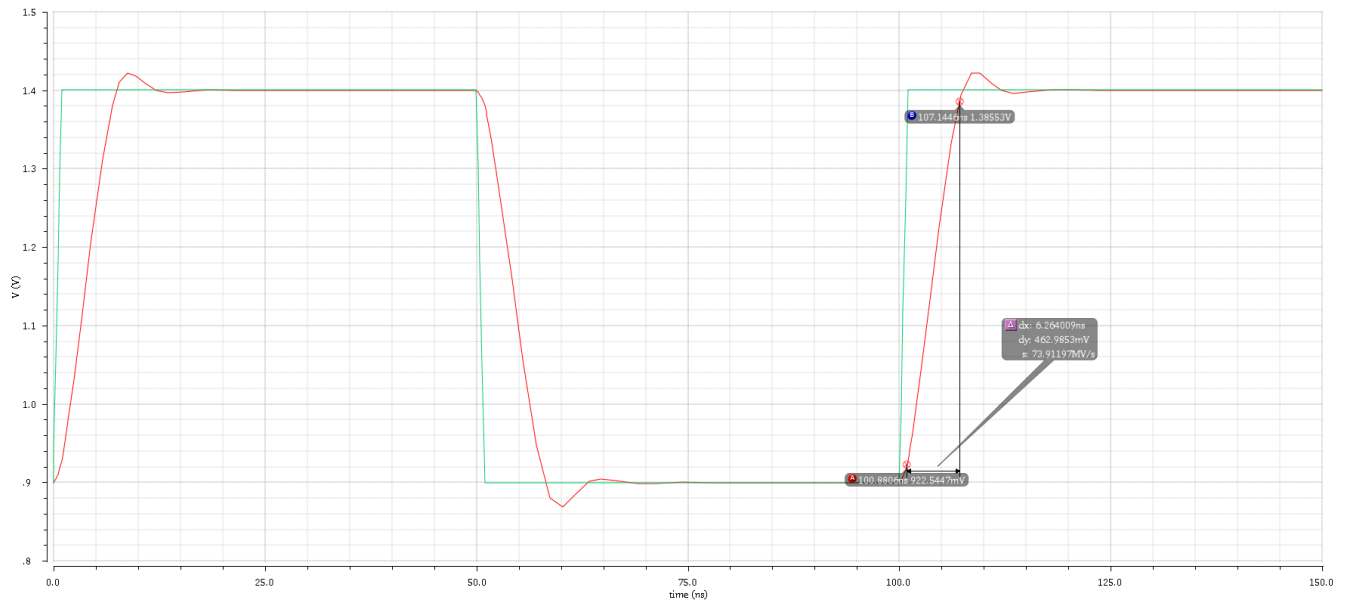

Figure 5: Transient response of the OPAMP.
a. Figure 5 shows the Slew rate of the OPAMP.  $SR = 74.29 \text{ MV/S}$